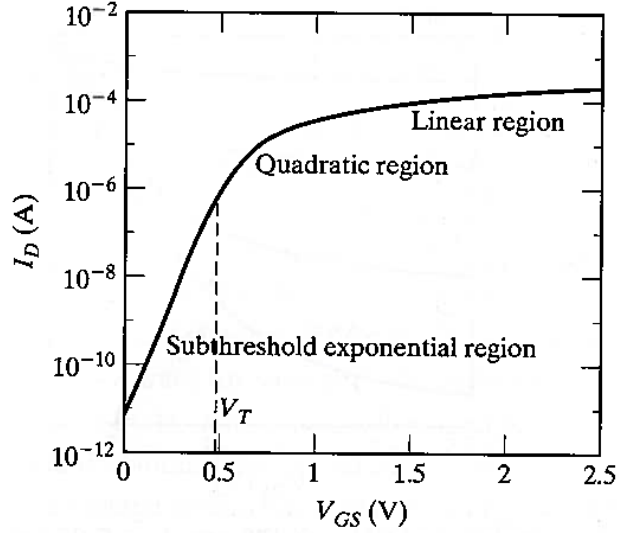

Figure 2: NMOSFET I_D - V_{GS} curve.
- (e) **(5 pts.)** If $clk, a, b,$ and c are all 0 V, V_{CY} is 0.25 V, and Figure 2 gives the I_D - V_{GS} curve for each NMOSFET, find an upper bound on the leakage current for the logic gate. Hint: It is fine to extrapolate.